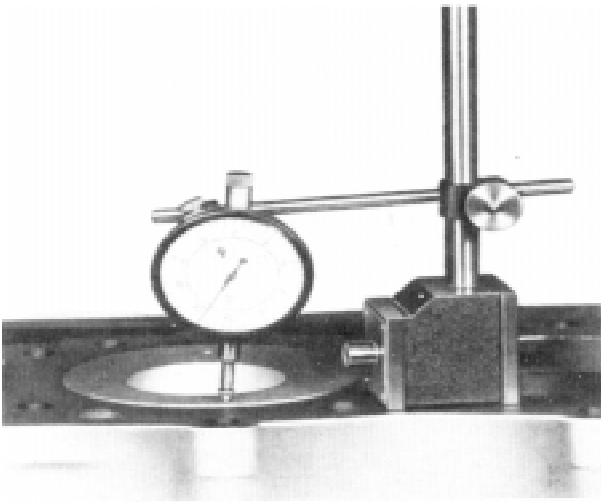

Figure 31
5. If necessary the sleeve top may be machined to bring it flush with the block face, or if necessary the block face may be skimmed by up to 0.005 in. (0.13 mm.) to achieve a flush condition. If the block is skimmed ensure the piston crown remain 0.011-0.023 in. (0.28-0.58 mm.) above the block face reference Figure 31.